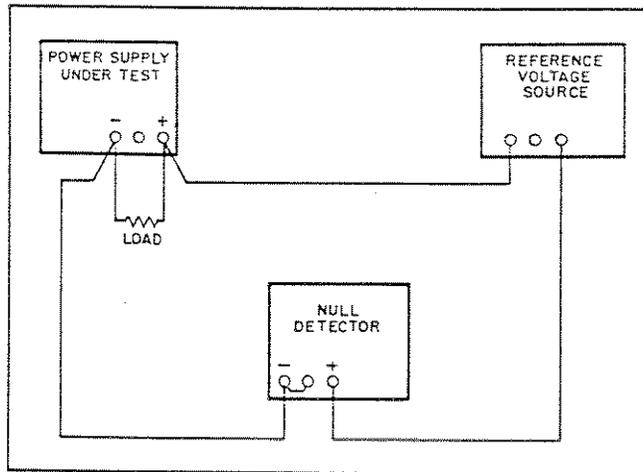

Figure 5-1. Differential Voltmeter, Substitute Test Setup
A satisfactory substitute for a differential voltmeter is to arrange a reference voltage source and null detector as shown in Figure 5-1. The reference voltage source is adjusted so that the voltage difference between the supply being measured and the reference voltage will have the required resolution for the measurement being made. The voltage difference will be a function of the null detector that is used. Examples of satisfactory null detectors are: ④ 419A null detector, a dc coupled oscilloscope utilizing differential input, or a 50mV meter movement with a 100 division scale. For the latter, a 2mV change in voltage will result in a meter deflection of four divisions.